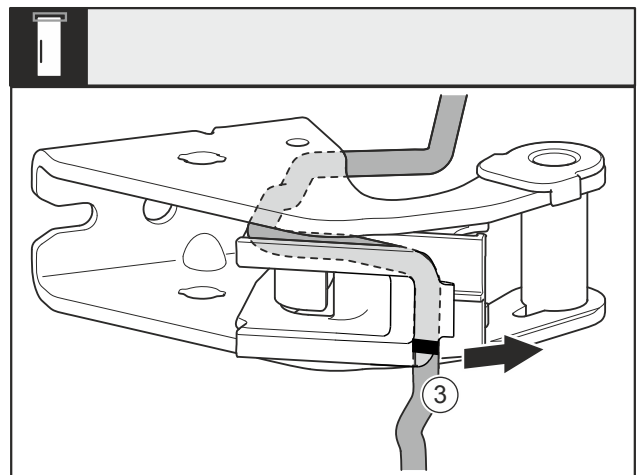

Fig. 26
- Remove the cable with the cable bracket Fig. 26 (3) from the swap bearing block.